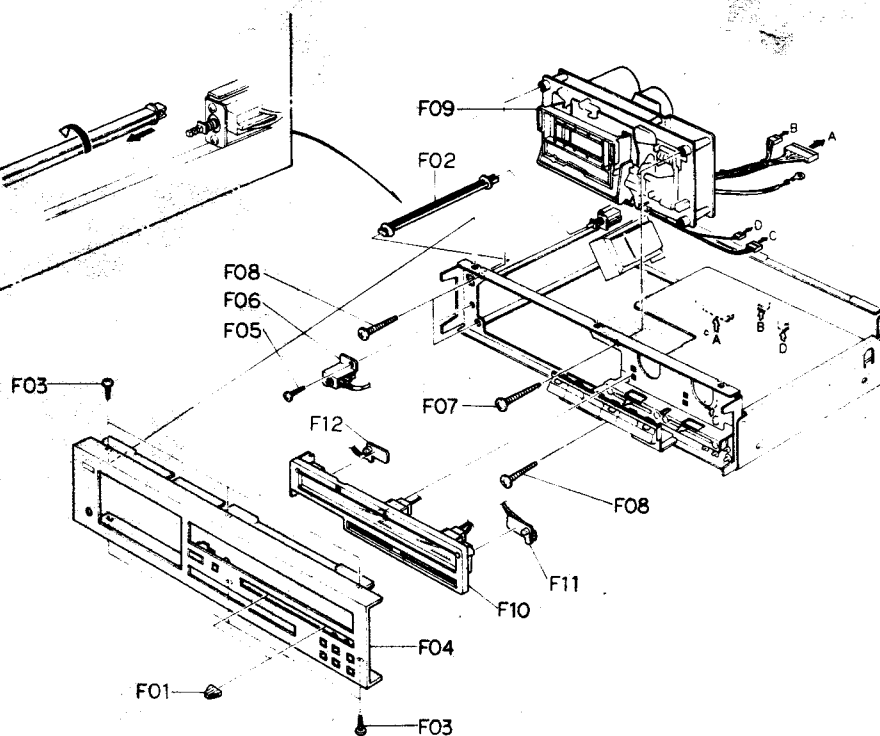

Fig. 3.2
Refer to Fig. 3.2.
1) Refer to Fig. 3.2. Remove Front Panel Ass'y referring to item 3.4.
1) Refer to Fig. 3.2. Remove Meter Ass'y referring to item 3.7.
- (1) Refer to Fig. 3.2. Remove Mechanism Ass'y referring to item 3.6.
- (2) Press the Eject Button to open the Cassette Case Ass'y.
- (3) Remove F01, then disassemble the piston of the Pneumatic Damper Ass'y.
- (4) Remove F02 and F03 (Cassette Case Holder L Ass'y), then disassemble F04 (Cassette Case Ass'y).
- (5) Remove F05, then disassemble F06 (Cover Plate Ass'y).
- (1) Refer to Fig. 3.2. Remove Meter Ass'y referring to item 3.7.
- (2) Remove F07, then disassemble F08 (Tape Counter Ass'y).
- (2) Remove F01 and F02, then disassemble F03 (Flywheel Holder Ass'y) and F08 (Capstan Belt).
- (3) Remove F04, then disassemble F05 (Capstan Motor Ass'y).
- (4) Remove F06, then disassemble F07 (Control P.C.B. Ass'y).
- (5) Remove F09 (Supply Flywheel Ass'y), then disassemble F10 (Take-up Flywheel Ass'y).
- (6) After removing both Flywheel Assemblies, disassemble F11 (Thrust Washer 3 mm), F12 (Thrust Washer 2.6 mm), F13 (Flange Thrust Caps) and F14 (Thrust Springs).